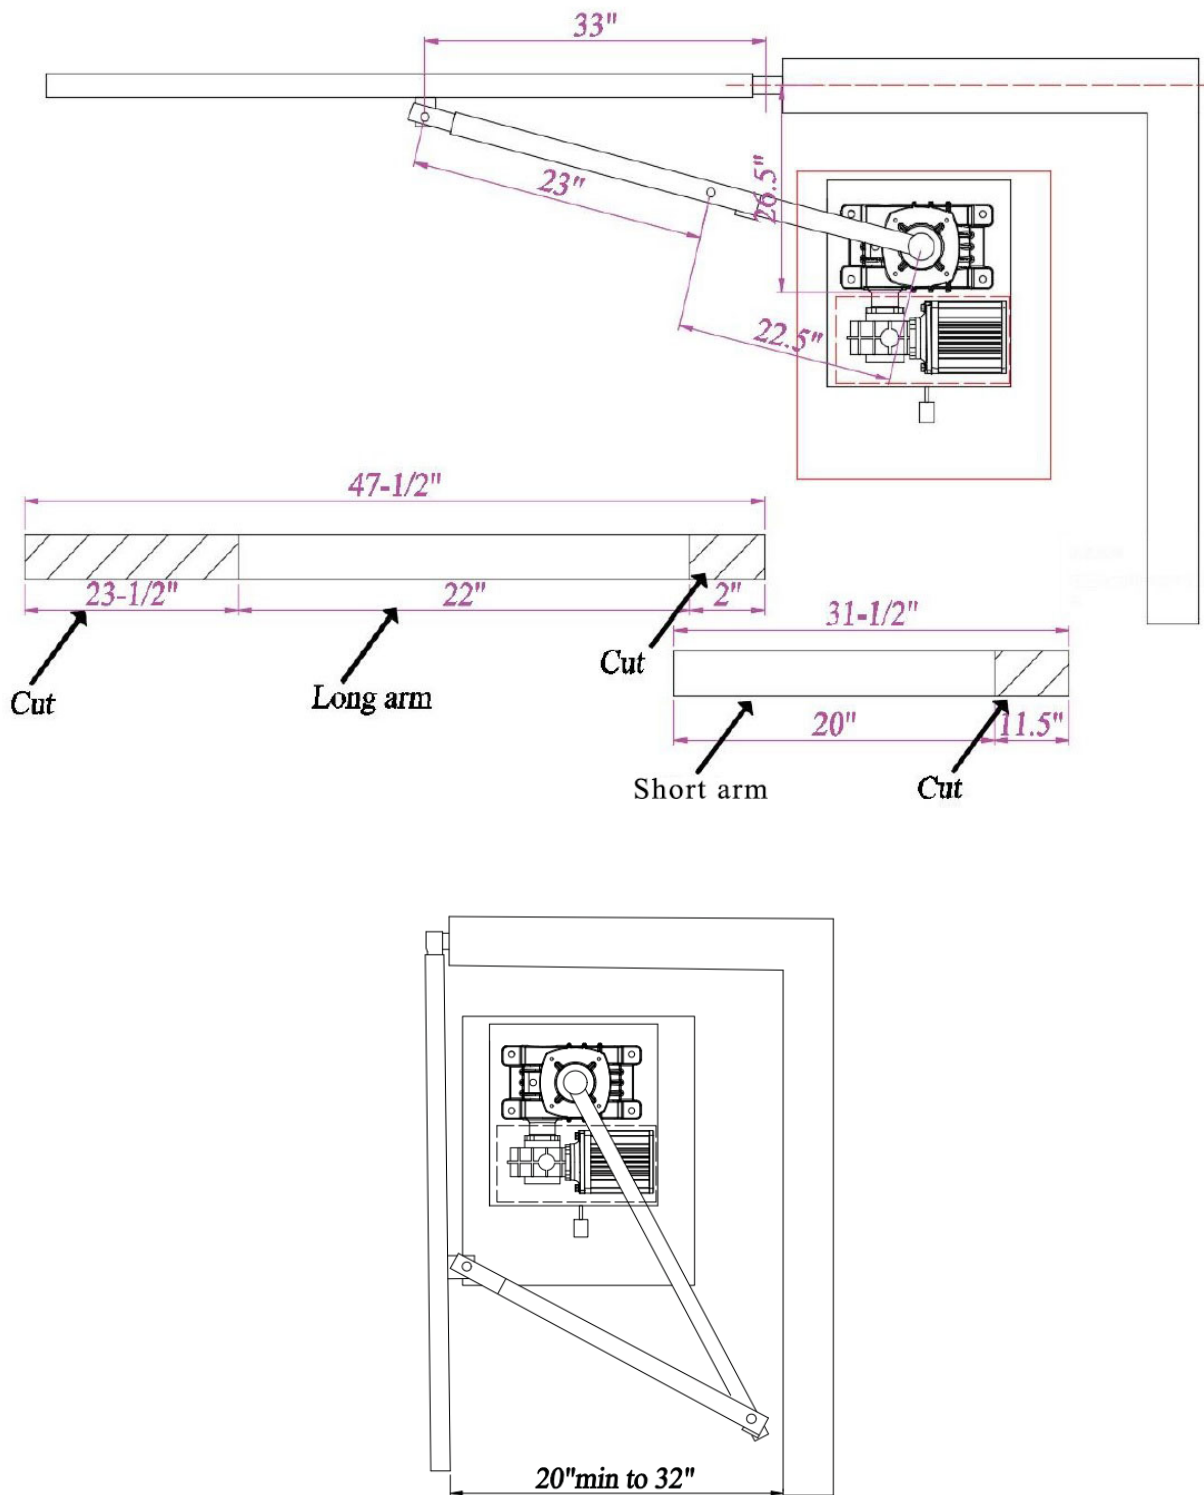

Figure 7
- B. NOTE: If dimension between open gate and wall is 20" to 32" then compact installation is necessary. (See Figure 7)